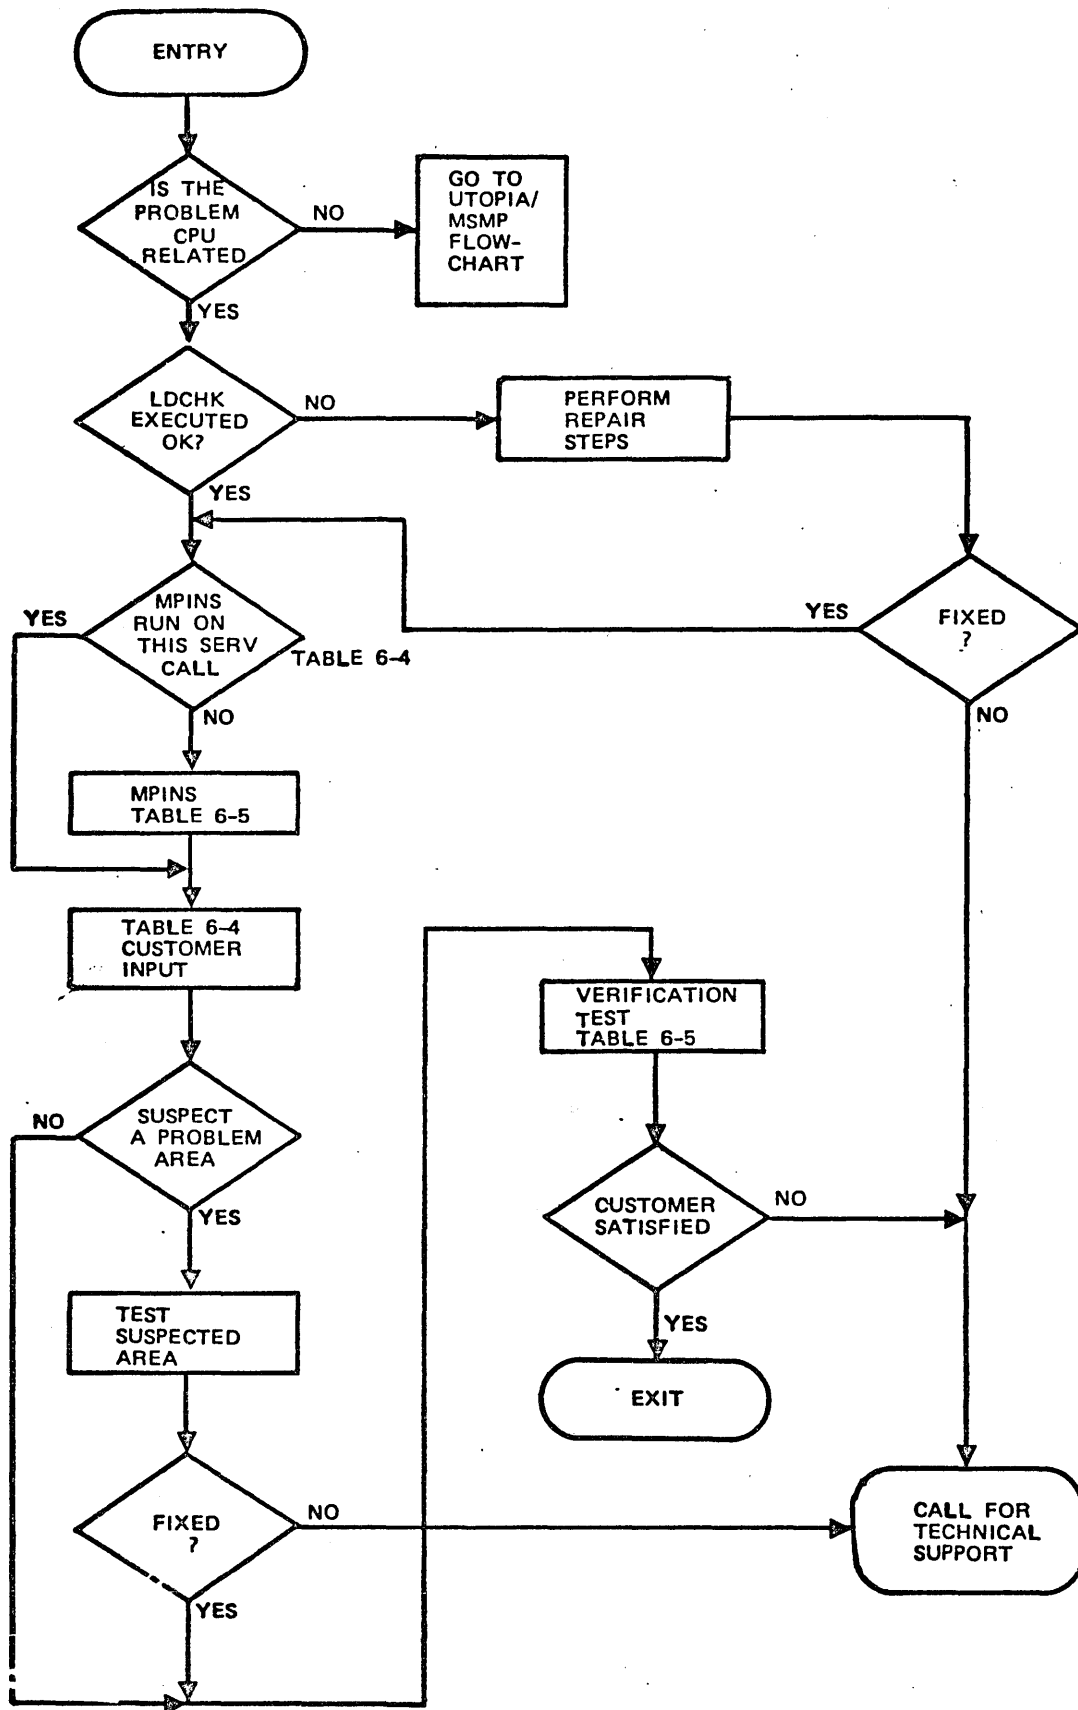
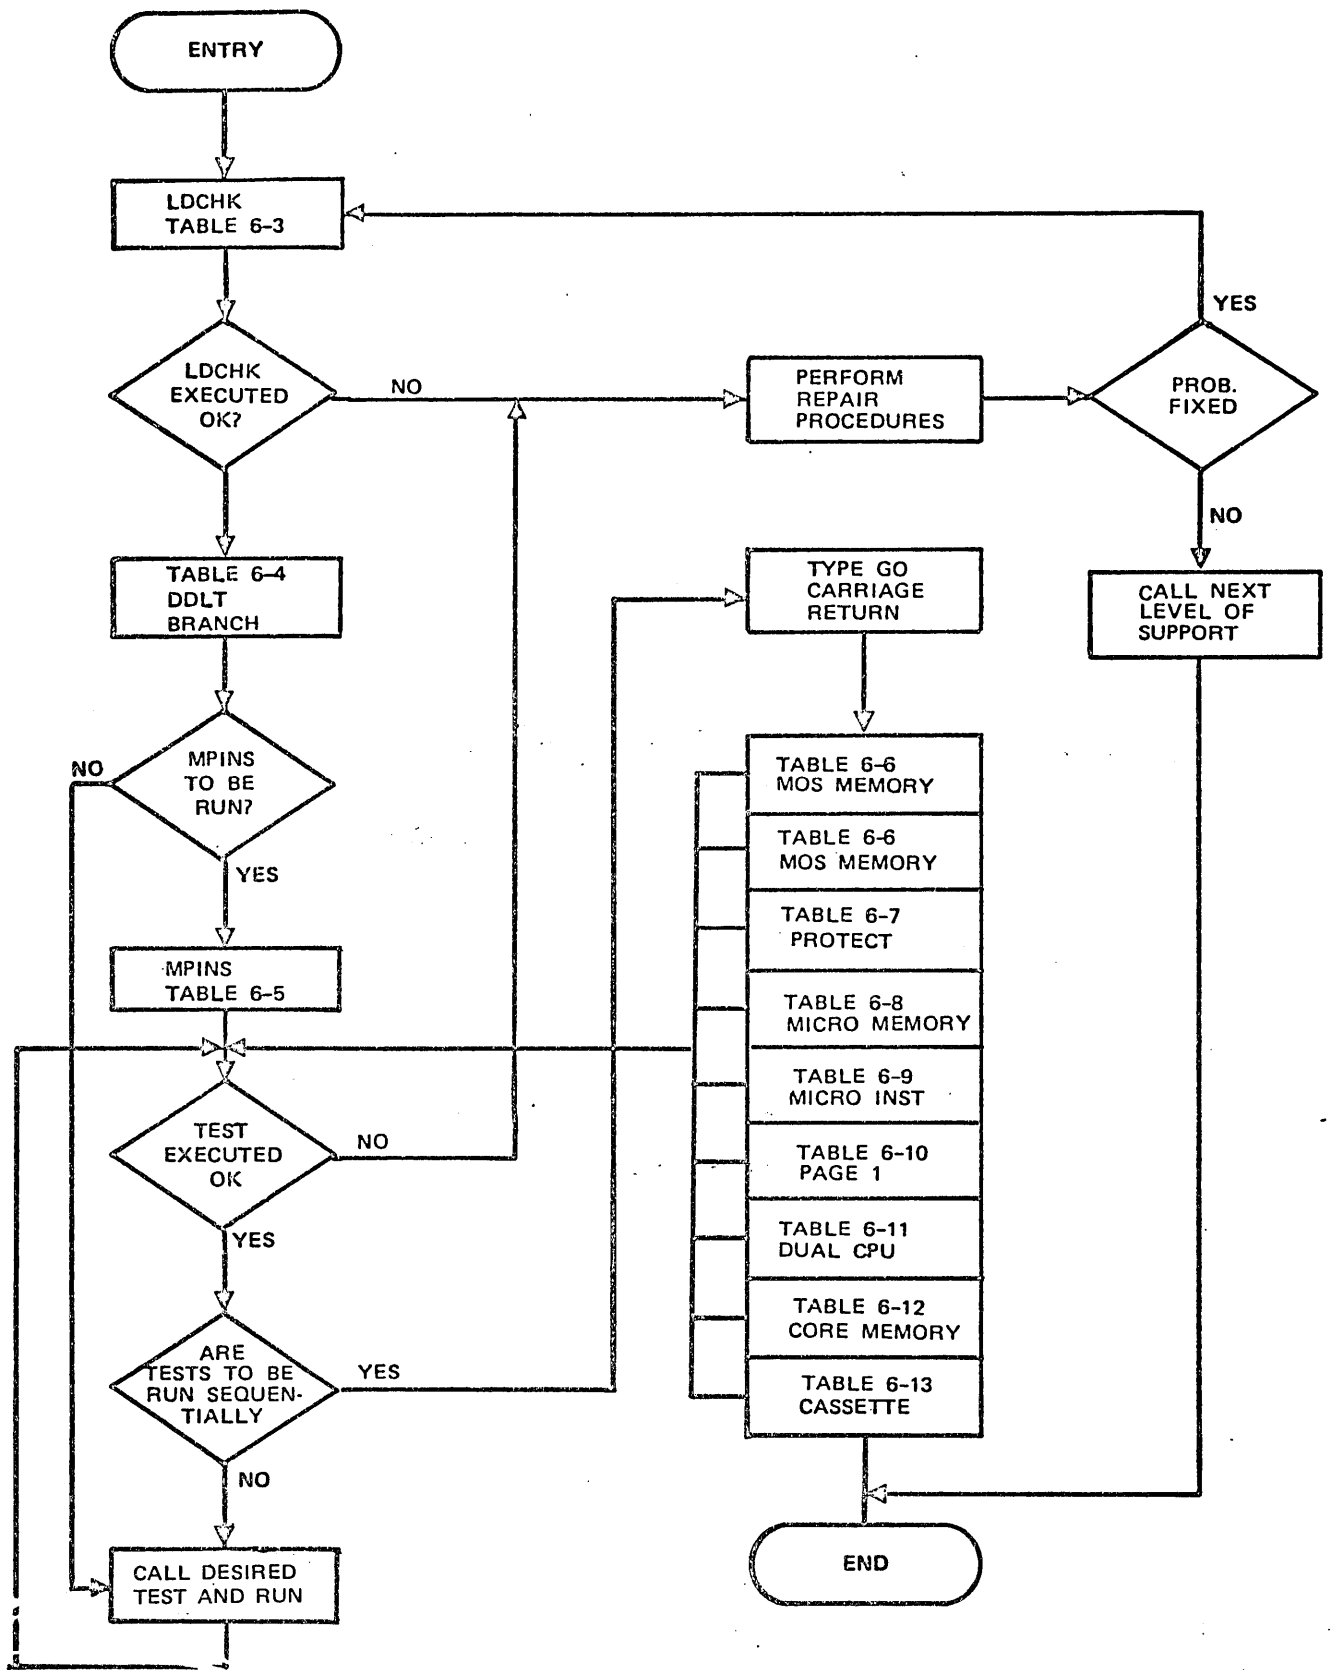

Figure 6-2. System Troubleshooting Flow Chart
Figure 6-3. Flow Chart for System Verification Test Sequence
4. If the malfunction is in a peripheral unit, the customer engineer should first run the DDLT tests in Tables 6-3 and 6-4 and then proceed to test the known bad device (see Table 6-5). This is illustrated by Figure 6-2. If a fault exists, but the customer cannot identify what is wrong, then a complete system verification test should be run. This is accomplished by running all DDLTs in sequence as illustrated in Figure 6-3.